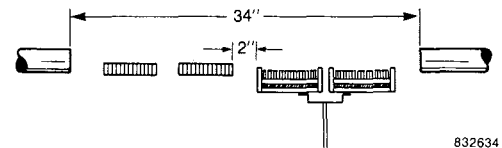

Fig. 36—Move heads to opposite side of opening.
- Move double heads to opposite side of opening. See Figure 36.